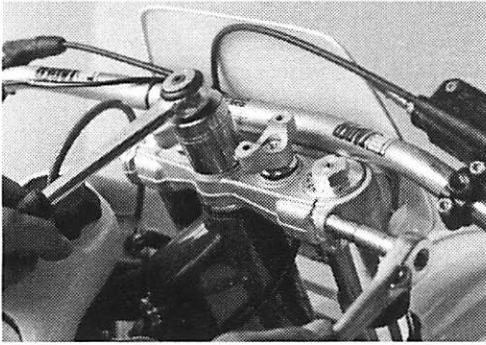

Figure 4.14
1. Loosen the top triple clamp 10 mm hex head fork pinch bolts. (Figure 4.14)
2. Loosen the 34 mm hex fork stem nut. (Figure 4.14)